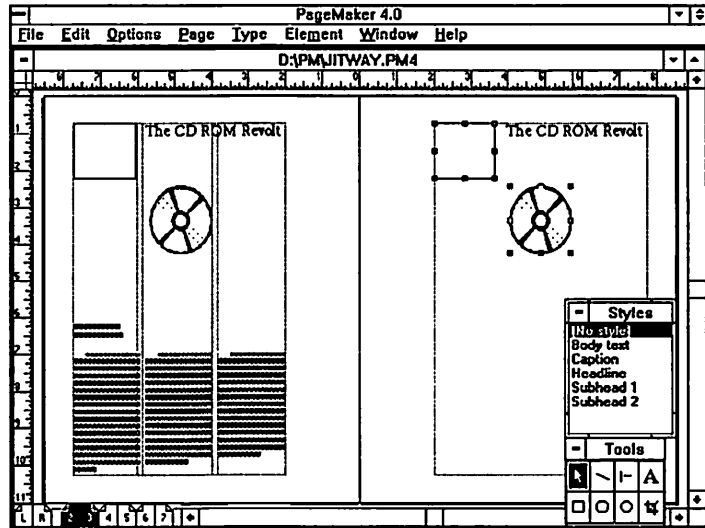

FIGURE 4-13 *The box and the graphic have been copied and pasted to a new page, where the box serves as a positioning guide for the graphic.*
4. With both the box and object still selected, drag the box (with the other object tagging along) to its original margin corner (Figure 4-13). Ungroup the item and box and delete the box.